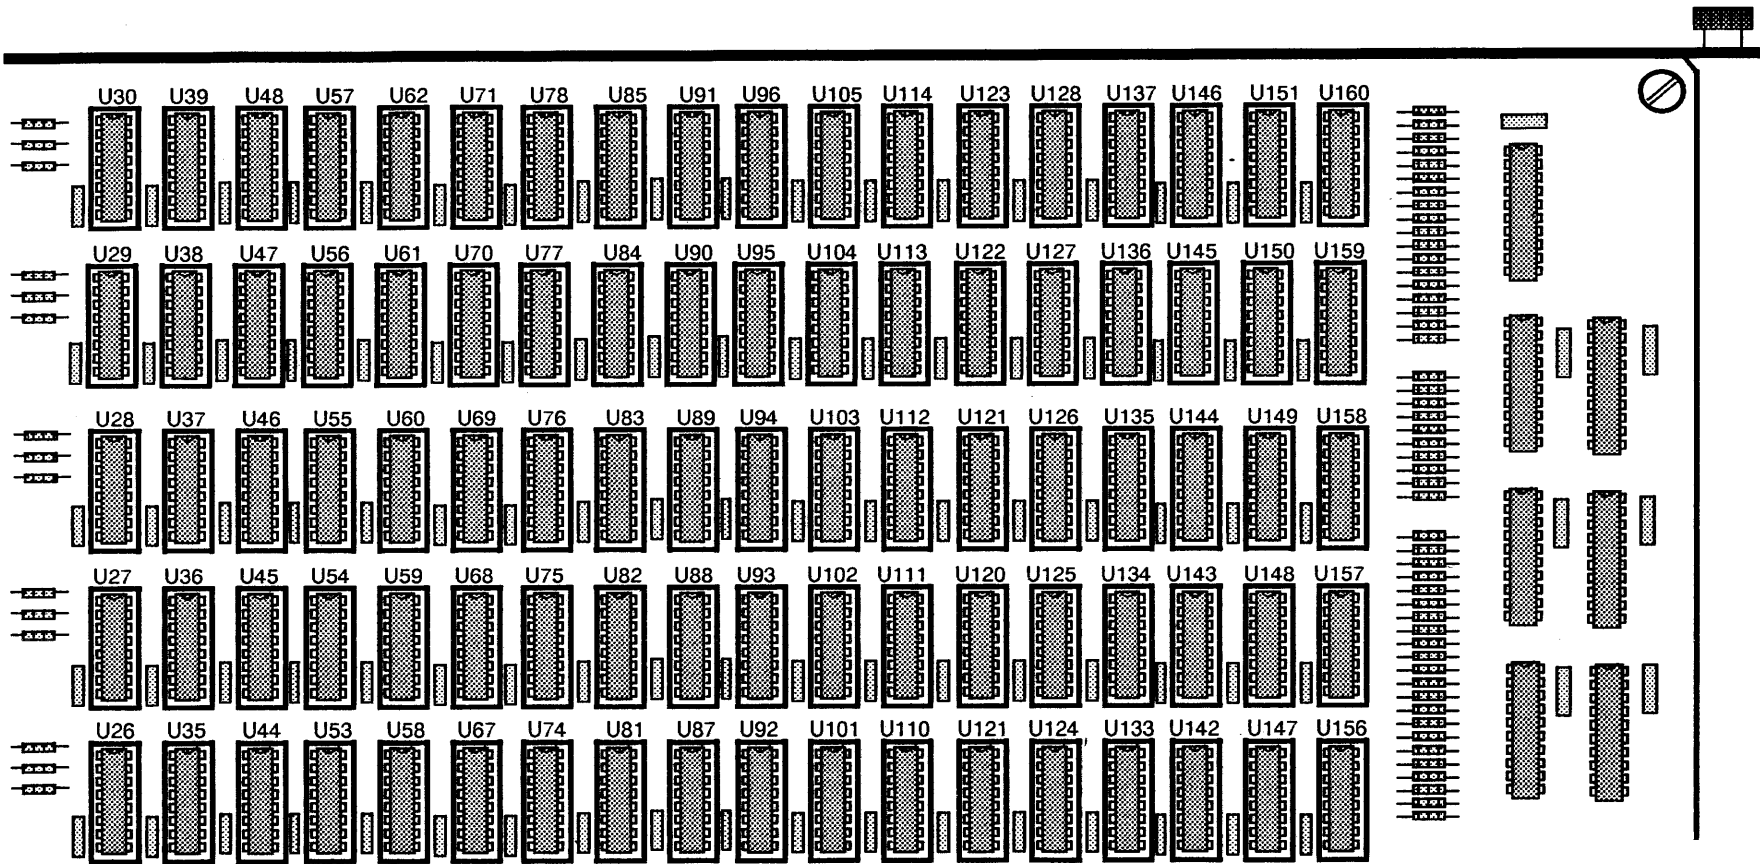

Figure 13. MEB PWB (shown fully loaded)
1. Determine where the memory chips will be installed (Figure 13).